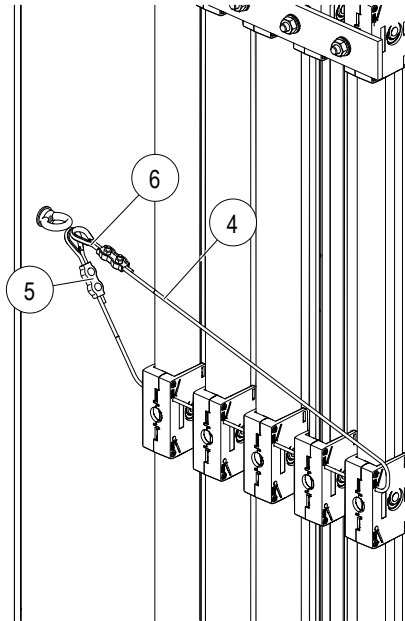

Fig. 42: Fasten the rope thimble (Item 6).
- Mount the rope clamp (Item 5) using a ratchet (tighten the hexagonal nuts of the rope clamps) and pull the rope thimbles (Item 6) into the loops (see Fig. 42).